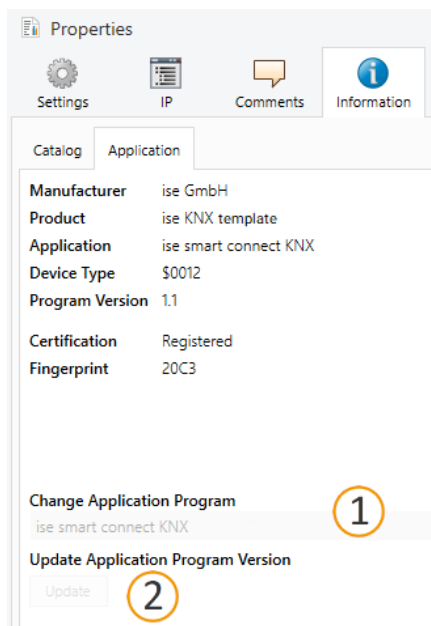

Figure 26: Updating the application program
5. Select the <<Update>> button under the item <<Update application program version>> (see figure 26, item 2).
If you change the value under <<Change Application Program>> (see figure 26, item 1), user-defined settings such as links to group addresses will be lost.